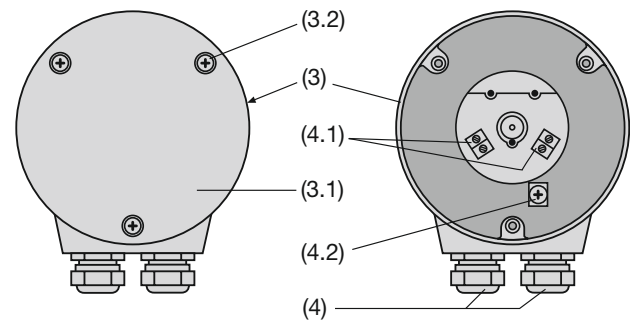

Fig. 6. Rear (3) with terminals (4.1) and (4.2) and cable glands (4). Left: Cover (3.1) closed. Right: Exposed.
In the case of transmitters fitted with **screw terminals** and **cable glands**, there are 4 screw terminals (4.1) plus 1 ground terminal (4.2) which are accessible after removing the cover (3.1) (see Fig. 6). The maximum wire gauge the terminals can accept is 1.5 mm2.
- ... with **screw terminals** and **cable glands**, remove the 3 screws (3.2) and the cover (3.1) (Fig. 6, left).
... with **screw terminals** and **cable glands**, remove the 3 screws (3.2) and the cover (3.1) (Fig.6, left).